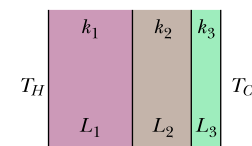

Figure 18.23 Problem 60.
**60** **M** **GO** Figure 18.23 shows the cross section of a wall made of three layers. The layer thicknesses are  $L_1$ ,  $L_2 = 0.700L_1$ , and  $L_3 = 0.350L_1$ . The thermal conductivities are  $k_1$ ,  $k_2 = 0.900k_1$ , and  $k_3 = 0.800k_1$ . The temperatures at the left side and right side of the wall are  $T_H = 30.0^\circ\text{C}$  and  $T_C = -15.0^\circ\text{C}$ , respectively. Thermal conduction is steady. (a) What is the temperature difference  $\Delta T_2$  across layer 2 (between the left and right sides of the layer)? If  $k_2$  were, instead, equal to  $1.1k_1$ , (b) would the rate at which energy is conducted through the wall be greater than, less than, or the same as previously, and (c) what would be the value of  $\Delta T_2$ ?